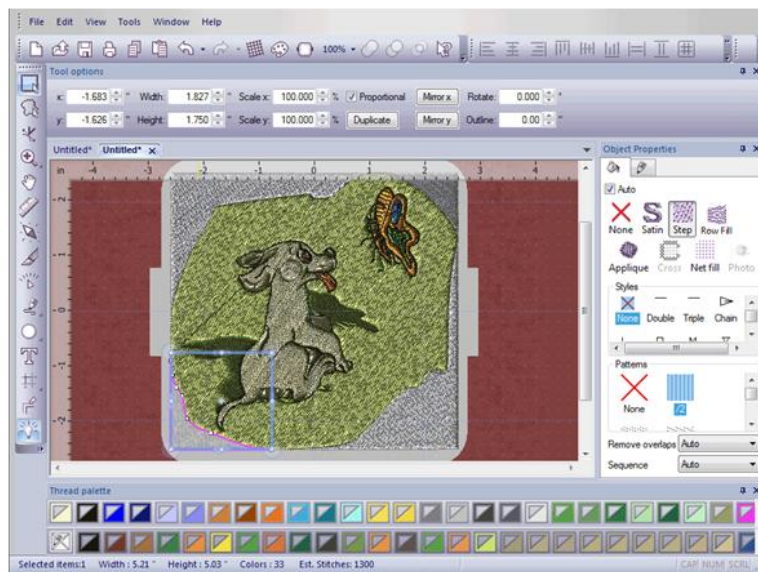

Figure 2.28: The traced image filled with stitches
29. The design will appear in the working area filled with stitches (Figure 2.28).